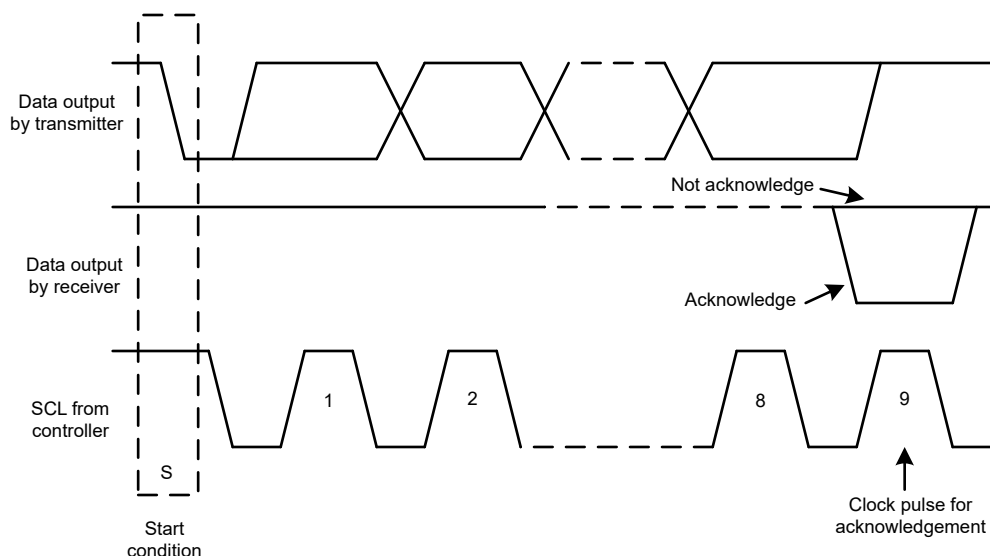
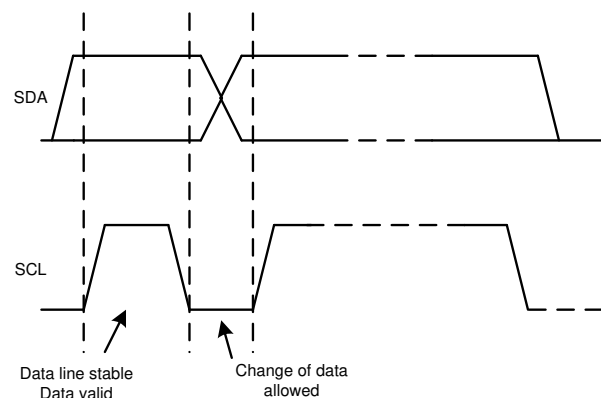

Figure 6-20. Acknowledge and Not Acknowledge on the I²C Bus
Figure 6-22. Bit Transfer on the I²C Bus
Other than specific timing signals, the I²C interface works with serial bytes. At the end of each byte, a ninth clock cycle generates and detects an acknowledge signal. An acknowledge is when the SDA line is pulled low during the high period of the ninth clock cycle. A not-acknowledge is when the SDA line is left high during the high period of the ninth clock cycle, as shown in Figure 6-20.
2. The controller then generates the SCL pulses, and transmits the 7-bit address and the read/write direction bit ($R/\bar{W}$) on the SDA line. During all transmissions, the controller makes sure that data are valid. A valid data condition requires the SDA line to be stable during the entire high period of the clock pulse, as shown in Figure 6-22. All devices recognize the address sent by the controller and compare the address to the respective internal fixed address. Only the target device with a matching address generates an acknowledge by pulling the SDA line low during the entire high period of the 9th SCL cycle, as shown in Figure 6-20. When the controller detects this acknowledge, the communication link with a target has been established.